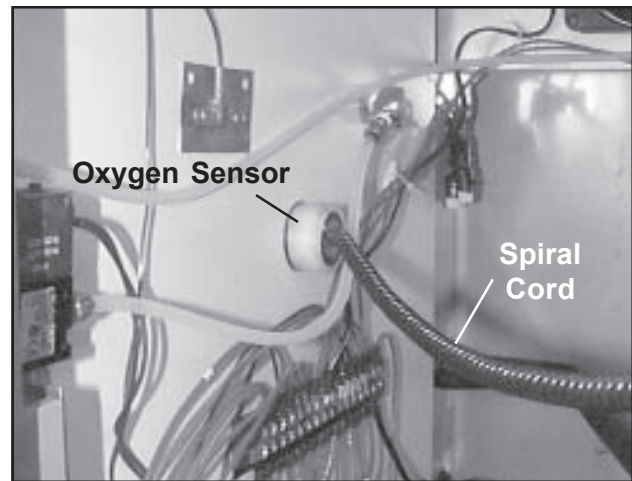

Figure 78. Oxygen Sensor Inside the Electronics Compartment
1. In the electronics compartment (Figure 78) twist the sensor slightly, and pull it out of the compartment wall. **Note:** Do not try to detach the spiral cord from the sensor.